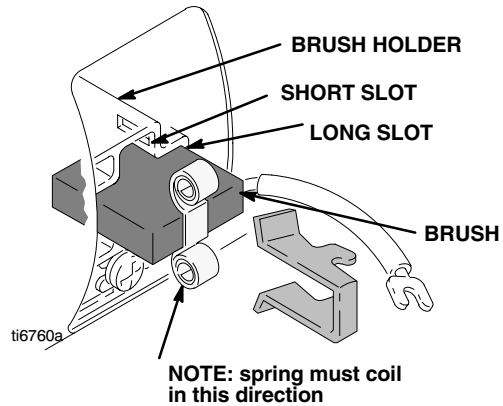

Fig 3
2. Place spring on as shown in Fig 3. Spring clip will damage spring if spring is installed backward.